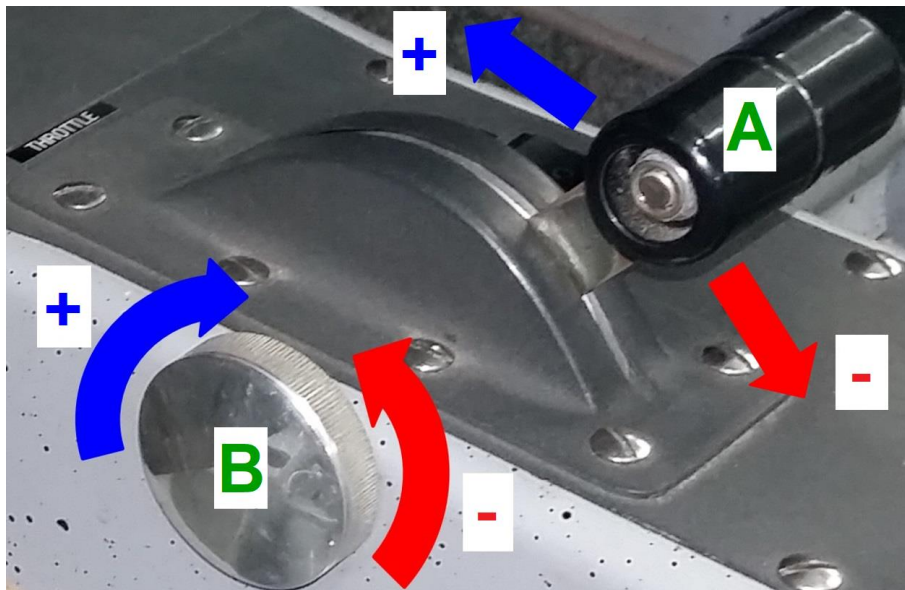

Fig. 7-15 Throttle controller
The throttle control labelled **THROTTLE** is a black handle (A) installed on the pedestal panel (Fig. 7-15). It is configured so that the throttle is opened in the forward position and closed in the full aft position. The throttle control handle is operated by pushing the handle forward (+) for increase or pulling backwards (-) for decrease of engine speed.